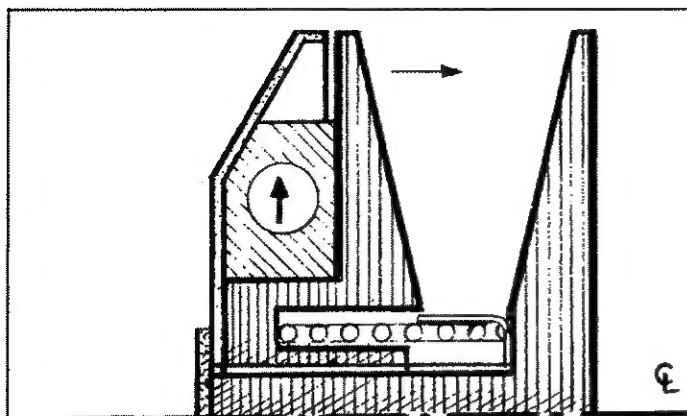

Fig. 1 - Representative of early design with a sliding block working against the cover and movable sheave. This design had high friction and limited tunability.
Fig. 1 - Speed diagram of variable speed transmission. The dotted line represents the engine speed as the vehicle speed increases. The big advantage of the snowmobile transmission is its ability to hold the engine RPM on the power curve while it continually changes ratios.
A speed diagram (Fig. 1) has the engine speed (RPM) on the vertical axis and the vehicle speed (MPH) on the horizontal axis. Two lines at different angles start at the zero point. These lines represent low and high ratio of your transmission. The steepest line represents the low ratio where the belt is all the way into the engine driving clutch and all the way out on the driven clutch. The low ratio is usually close to 3:1.
**Fig. 1 - Low Ratio** - The belt is at the smallest radius on the primary driving clutch, and at the largest radius on the secondary driven clutch. Total speed reduction ratio is 3:1 giving three times as much torque at the driven clutch.